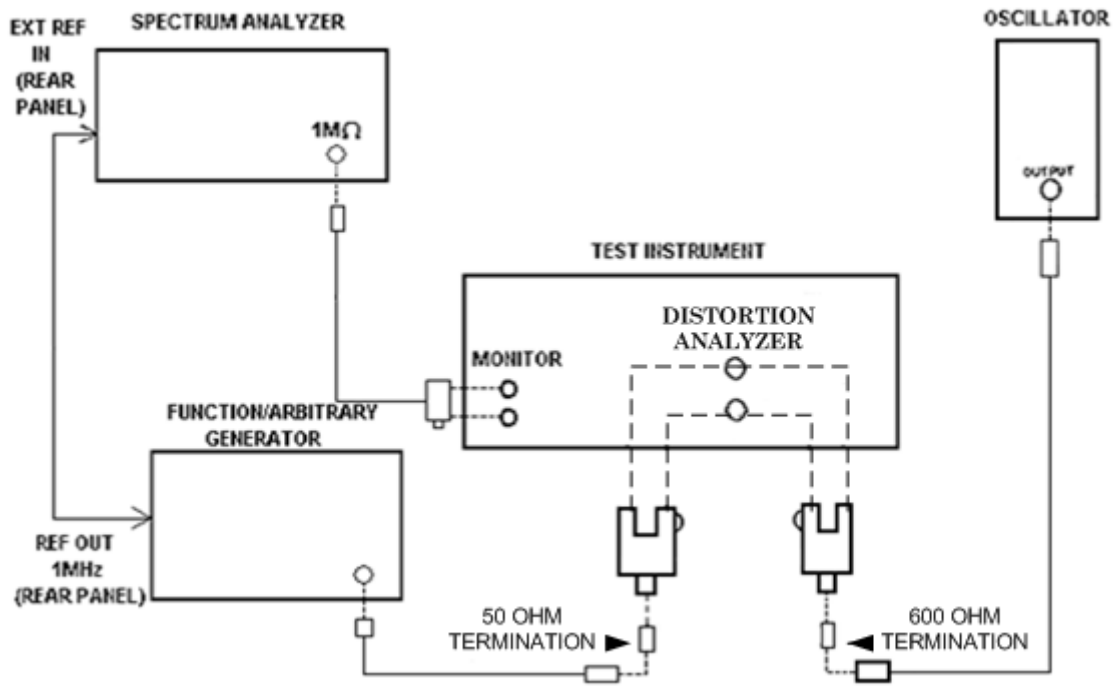

Figure 5. Distortion setup.
(1) Connect equipment as shown in figure 5.